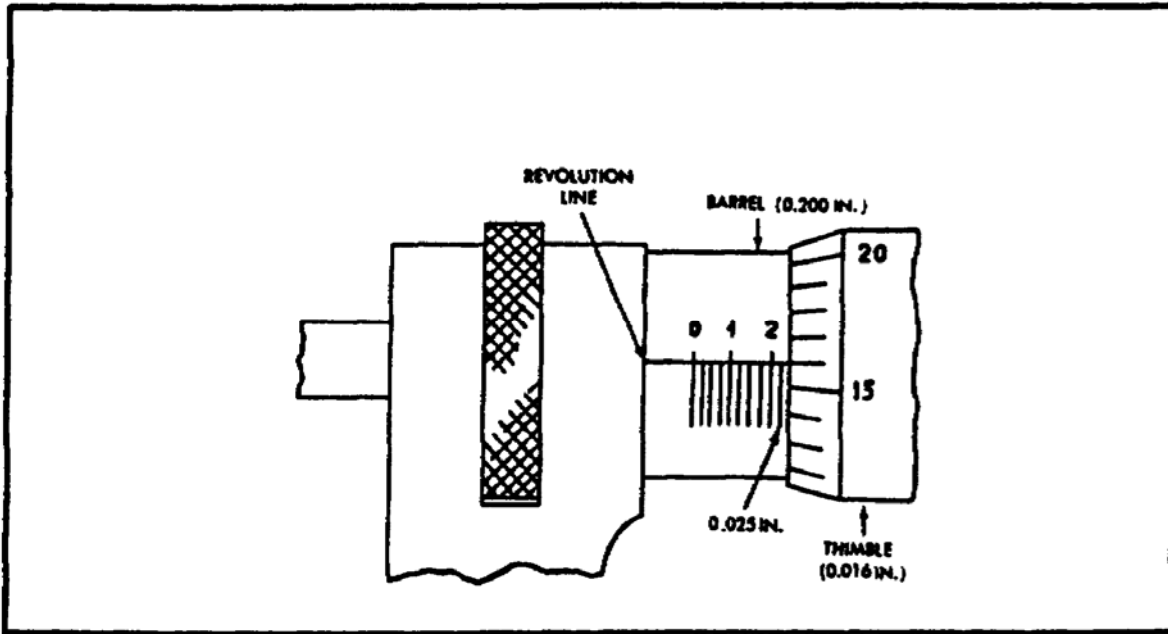

FIGURE 192. READING STANDARD MICROMETER SCALE.
(1) *Reading Standard Micrometer.* Reading a standard micrometer is only a matter of reading the micrometer scale or counting the revolutions of the thimble and adding to this any fraction of a revolution. The micrometer screw has 40 threads per inch. This means that one complete and exact revolution of the micrometer screw moves the spindle away from or towards the anvil exactly 0.025 inch. The lines on the barrel (figure 192) conform to the pitch of the micrometer screw, each line indicating 0.025 inch, and each fourth line being numbered 1, 2, 3, and so forth. The
beveled edge of the thimble is graduated into 25 parts, each line indicating 0.001 inch, 1/25 of the 0.025 inch covered by one complete and exact revolution of the thimble. Every fifth line on the thimble is numbered to read a measurement in thousandths of an inch. Read measurement shown in figure 192 as indicated in (a) through (d) below.